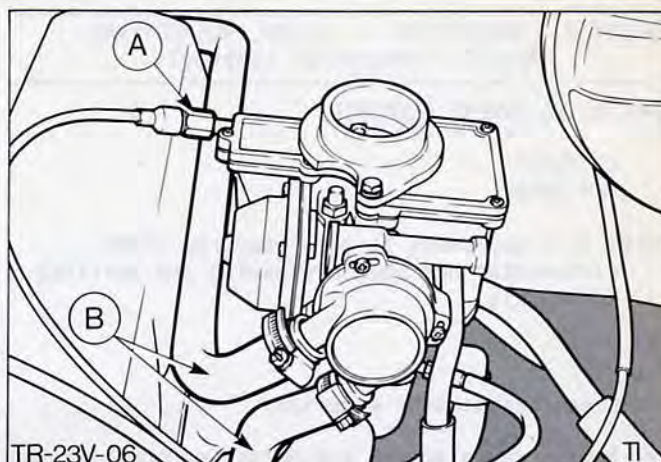

Fig.45. Components to be disconnected before removing carburettor.
4. Disconnect both auto-choke hoses at carburettor. 'B' in Fig.45.